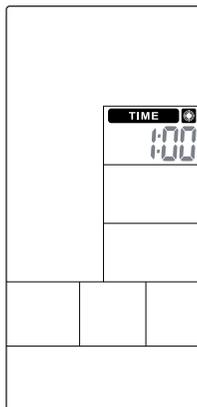

Figure 39
2. The **TIME** value will flash. Use the “UP” and “DOWN” buttons to adjust the value (see Figure 39). Press “ENTER” to confirm. The buzzer will sound for 1 second, and the **TIME** icon will remain lit.